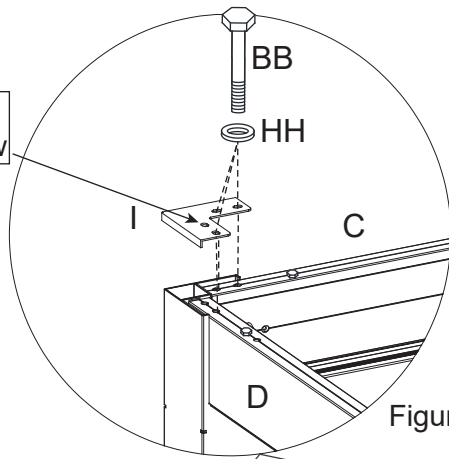
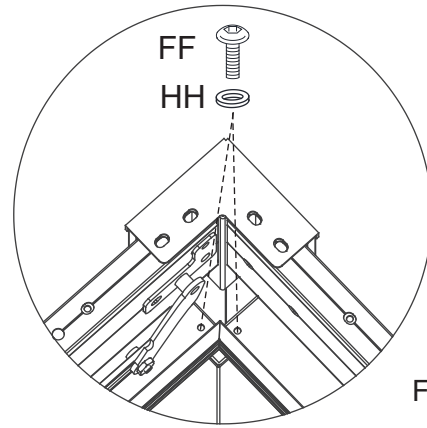

Figure 5.1
Figure 5.3
5. Connect the Cap Liner (I) and the Lintels (B/C/D/E) with Bolt (BB) and Washers (HH) . Then fix the Lintels (B/C/D/E) and the Post (A) with Bolt (FF) and Washers (HH) . See Figure 5.1- Figure5.3. Note: Be sure measurements diagonally across the overall frame are within 5mm of the same distance after completing this step.